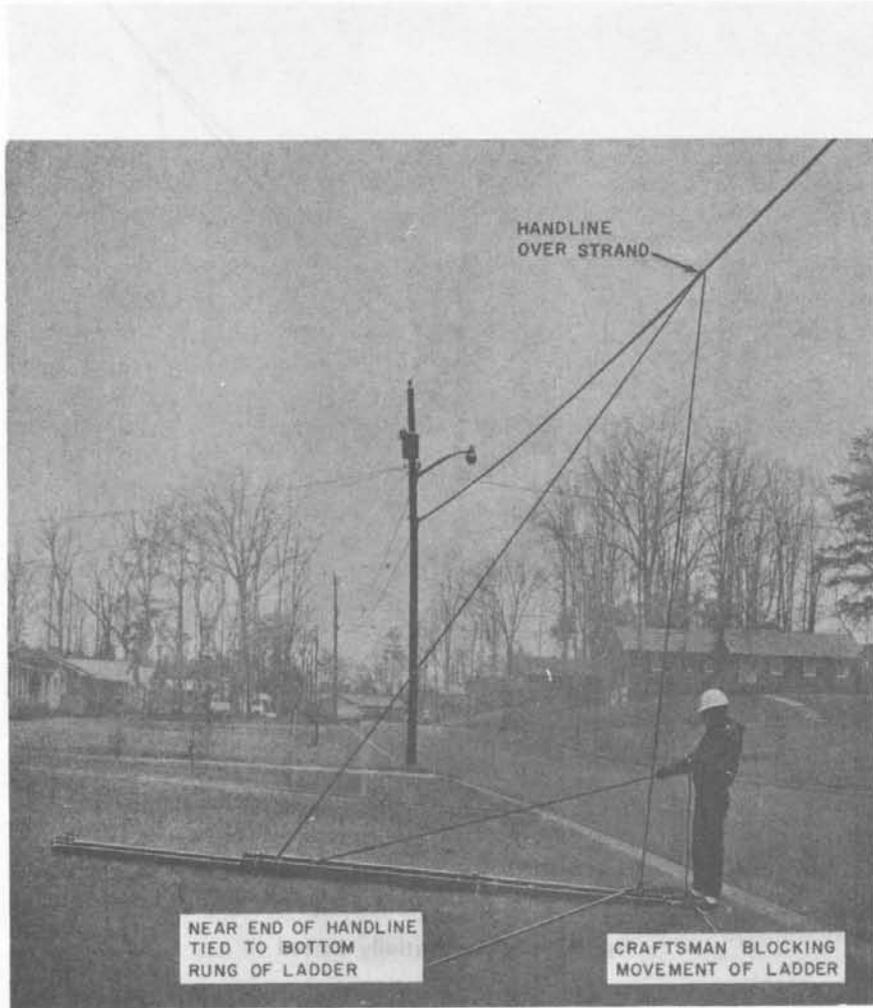

Fig. 20—Preparing to Raise Extension Ladder
**7.06** Carry the free end of the handline to the base of the ladder and stand with the feet on each side rail to block movement of the ladder base to the rear (Fig. 20).